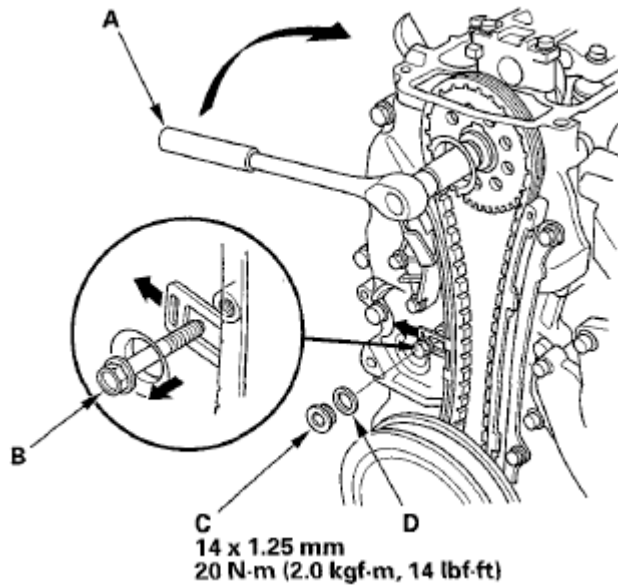

Fig. 79: Turning Camshaft Clockwise To Compressing Cam Chain Tensioner With Torque Specifications
7. Install the maintenance bolt (C) with a new washer (D). (See **Fig. 79**)